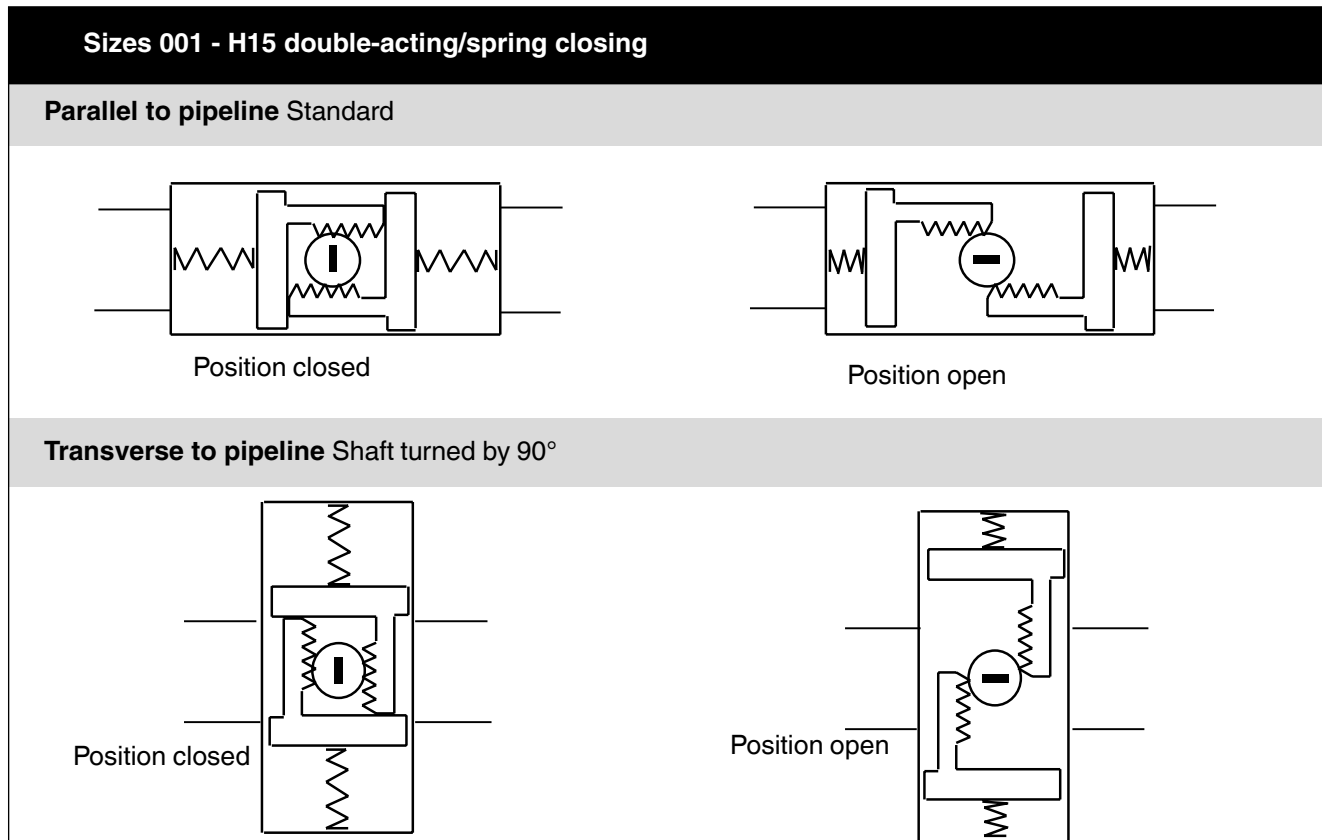
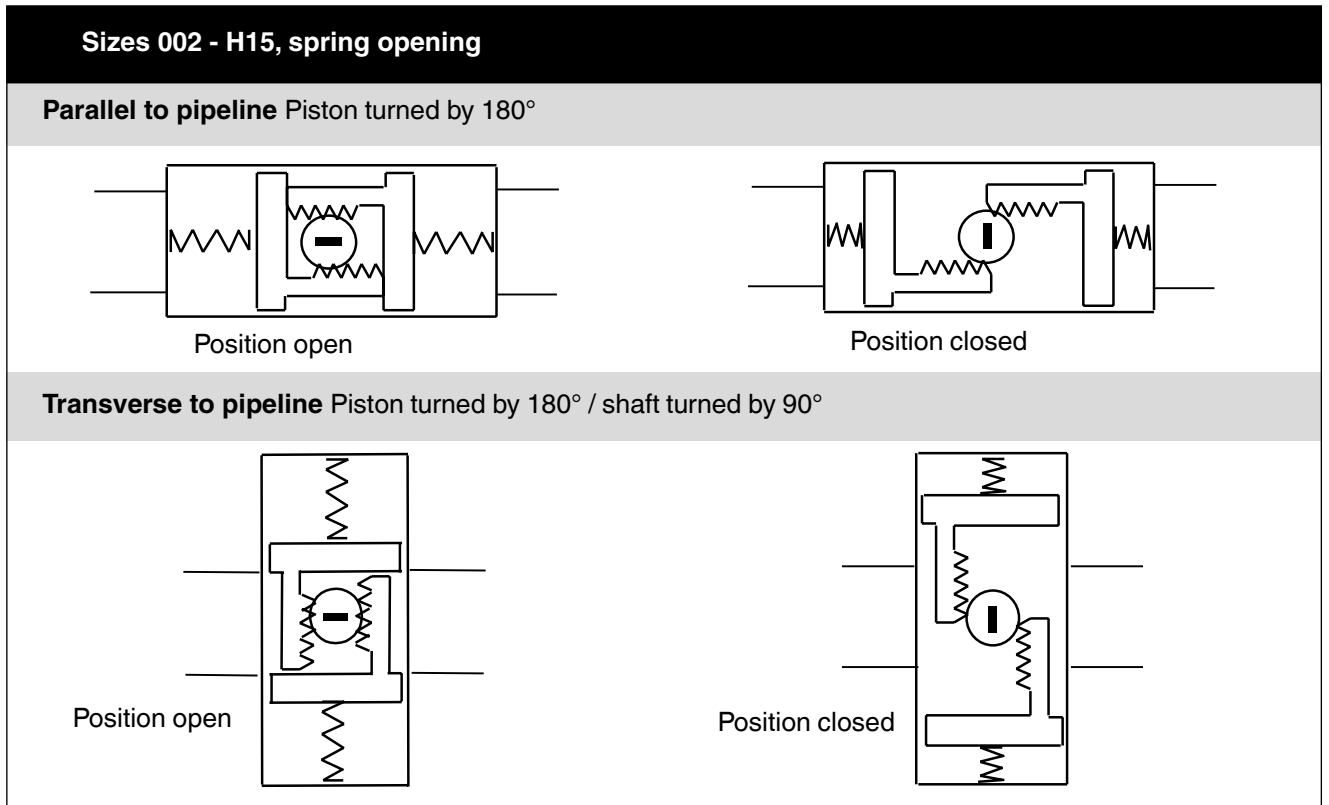

Fig. 14 Schematic of actuator double-acting and with closing spring (sizes 001 to H15)
Fig. 15 Schematic of actuator with opening spring (sizes 002 - H15)
Both pistons (3) must be reassembled in correct position and with the racks to the right and left of control shaft (4), as they have been taken out, as otherwise the sense of rotation of the actuator will be reversed! See also Fig. 14 (spring closing) and Fig. 15 (spring opening).
Note: Please observe Fig. 15 to 18 for the different types and sizes of actuators as guidance: